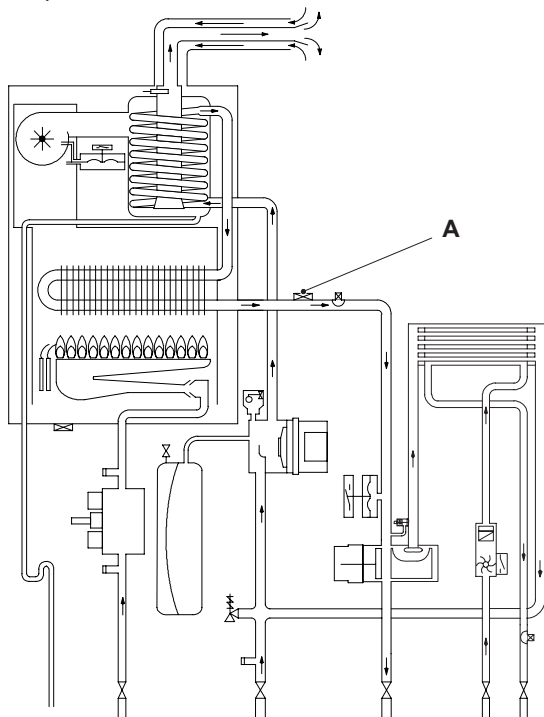
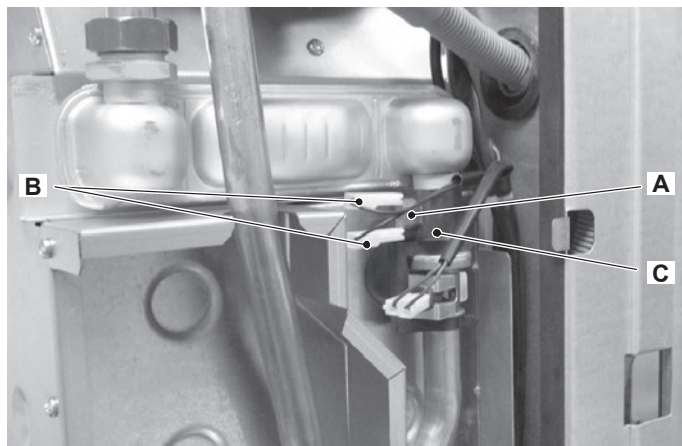

Figure 19.1
Figure 19.2
The safety thermostat A in Figure 19.1 and Figure 19.2 is a device that senses the temperature of the primary circuit water which flows in the outlet pipe of the primary heat exchanger.
- 2 Disconnect the wiring B (Figure 19.2).